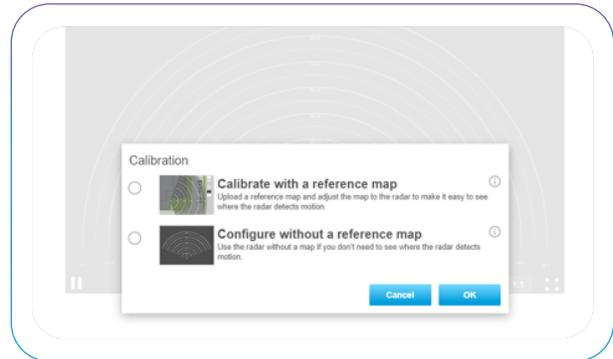

Figure 11. Calibration with a reference map
B. Select Calibrate with a reference map (Figure 11) and click on the **OK** button to proceed.